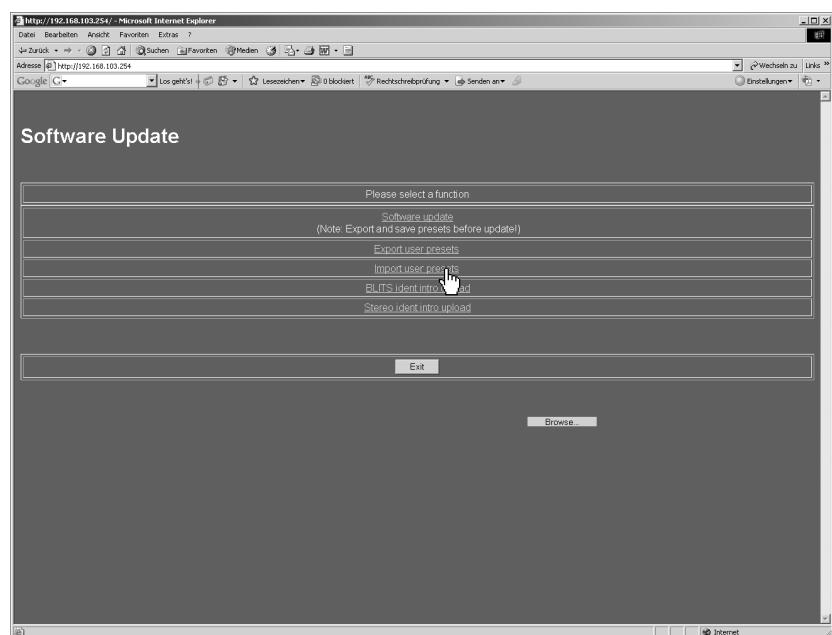
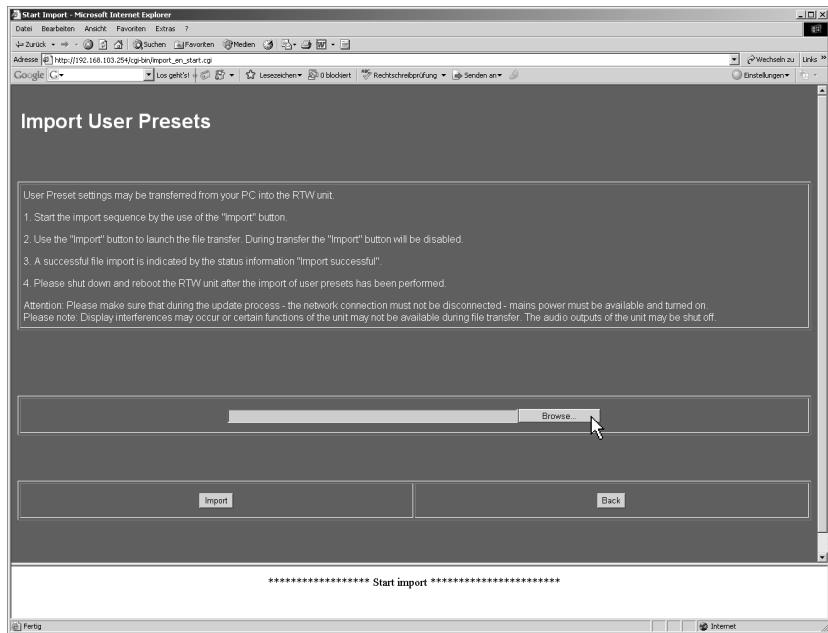
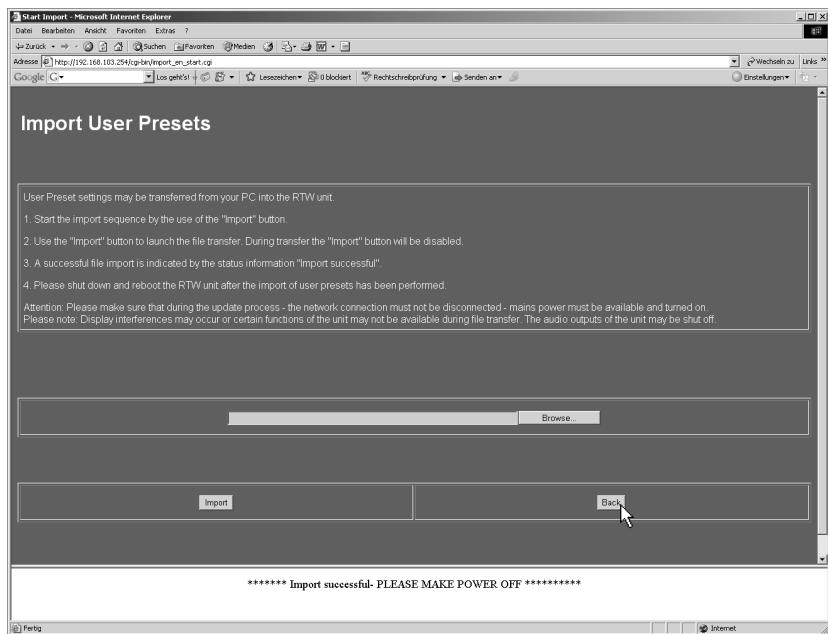

Fig. 8-20: Software Update Program menu in web browser
Fig. 8-21: Display of the *Import* menu page (Browse ...)
Fig. 8-25: End of the import of the user settings
2. The SurroundControl units should respond with a screen like the one shown in Fig. 8-20. Choose **Import user presets**. **Please note the instructions on the Import menu page** (see Fig. 8-21).
3. Please click the **Browse ...** button (see Fig. 8-21) to browse for the user settings data file.
7. When "Import successful - PLEASE MAKE POWER OFF" is displayed the Import process is finished (see Fig. 8-25). For activating the imported user settings the SurroundControl units have to be restarted.
8. Click the **Back** button (see Fig. 8-25) to get back to the home page (see Fig. 8-20). There please click **Finish** to leave the software update program.